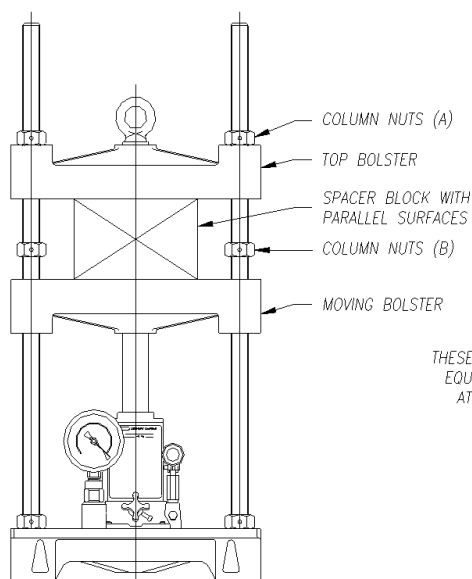
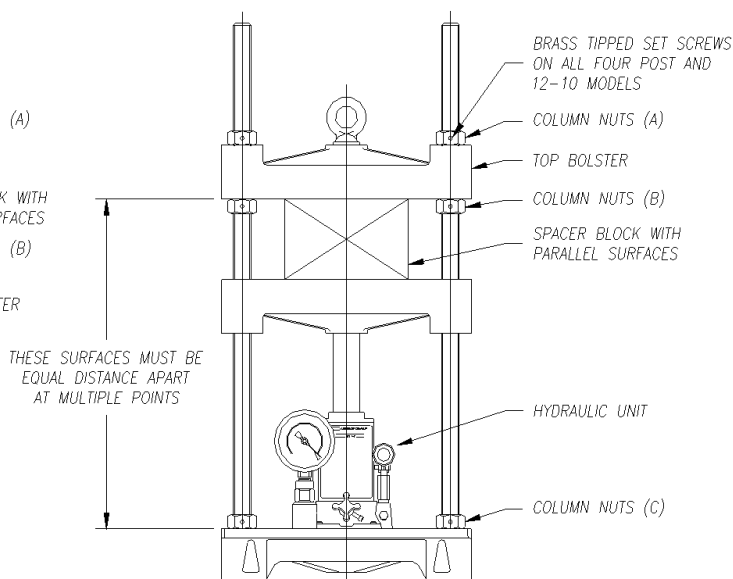

FIGURE 4-5
FIGURE 4-6
5. Insert the spacer block on the moving bolster and raise the top bolster against the upper column nuts (A) (FIG 4-5) and tighten the lower column nuts (B) (Fig 4-6) finger tight against the bottom of the top bolster.
6. Measure and equalize the distance from the bottom surface of the top bolster to the top surface of the base bolster at two points (four points on Four Post presses) as far apart as possible (FIG 4-6). Adjust the lower column nuts (B) as needed to insure parallelism between the top bolster and base bolster. Turn the upper column nuts (A) finger tight against the top bolster.
8. Tighten the lower column nuts (B) against the bottom surface of the top bolster as tight as possible.
9. Retighten the column nuts (C) on top of the base bolster.